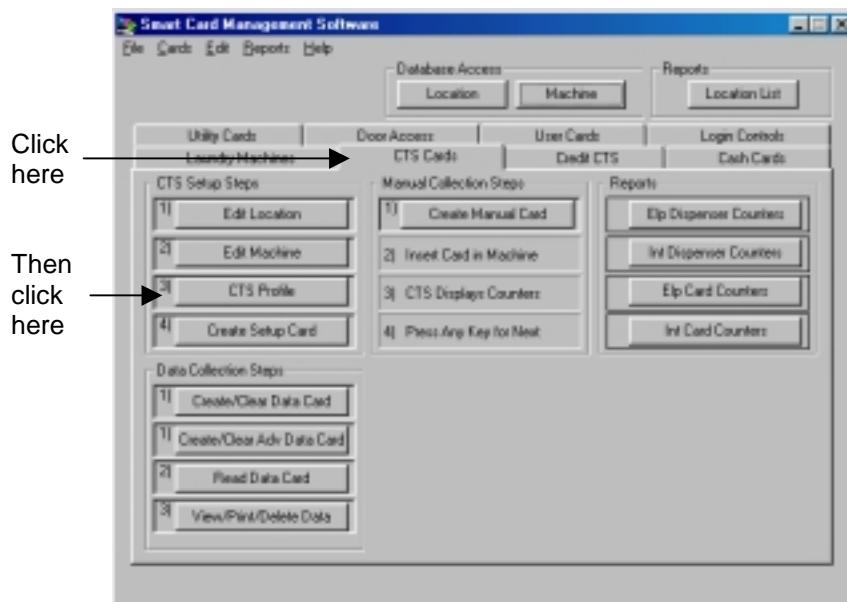

Figure 3.9 Opening the CTS Profile Manager
1. Click the **CTS Cards** tab in the main screen (Figure 3.9).
2. Click **CTS Profile** button (Figure 3.9).